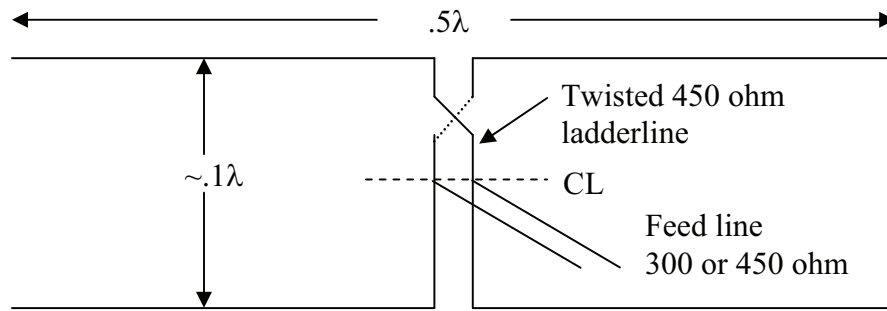

Figure 1. Classic W8JK array with $.5\lambda$ elements
One of the antenna designs I started modeling (using EZNEC) was a W8JK array using 20M $.5\lambda$ dipoles. The W8JK (John Kraus - sk) 2-element array (1) is a venerable design dating back to the '30s but has appeared in every Antenna Handbook (3) since then and has even appeared in QST (2) in recent years. The classic '8JK array consists of 2 $.5\lambda$ dipoles at the lowest operating frequency closely spaced ($\sim .1\lambda$) with a phasing line (often 450 ohm ladder line) connecting the feedpoints. This phasing line is twisted to impart a 180 phase shift between the elements. The antenna is fed at the midpoint of the phasing line – see figure 1. In Kraus' day these arrays were fed with open wire feeders so multiband operation was readily possible. An array designed for 40M could be used on 20M and 10M (no 12/15/17/30M available in that day). The gain was slightly higher on the higher bands due to the longer effective length. The radiation pattern was bidirectional – a narrow figure 8 and nearly 6dbi could be expected on the lowest frequency. Of course, a balanced tuner was required to match the open-wire feedline to the transmitter.